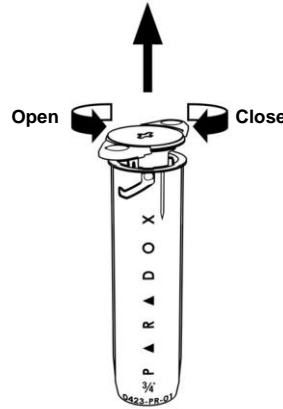

FIGURE 2
1. Open the top of the DCT6 transmitter, turning the cover counter clockwise, see Figure 2.
4. Open the transmitter as per Figure 2 then close it. This will register the DCT6 entered section.
6. Open the transmitter as per Figure 2 then close it.
2. Open the transmitter as per Figure 2, then close it. This will register the DCT6 to the entered section.
4. Open the transmitter as per Figure 2 then close it.